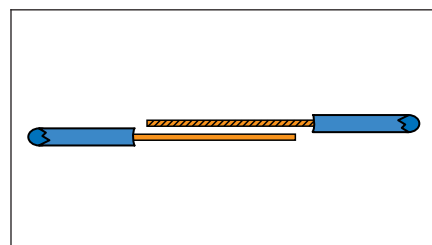

Figure 1 Strip and Tin
3. Strip and pre-tin stranded wires in accordance with guidelines identified in paragraph 7 in 8.1. (See Figure 1.)